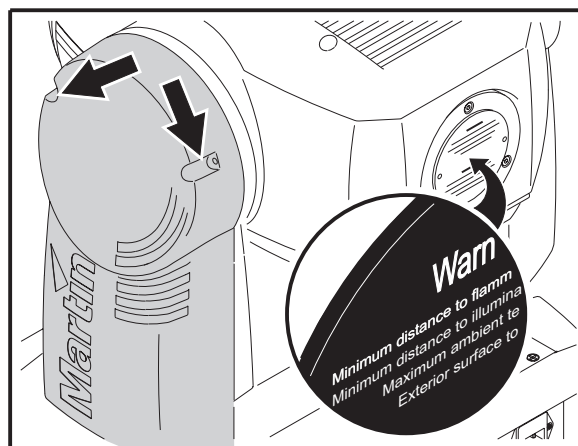

Figure 16: Identifying and removing the left-hand yoke cover
2. Remove the left-side yoke cover (when looking at the head from the back with the text the correct way up as in Figure 16) to access the PCB.
- Remove the left-side yoke cover (see Figure 16) to access the PCB.